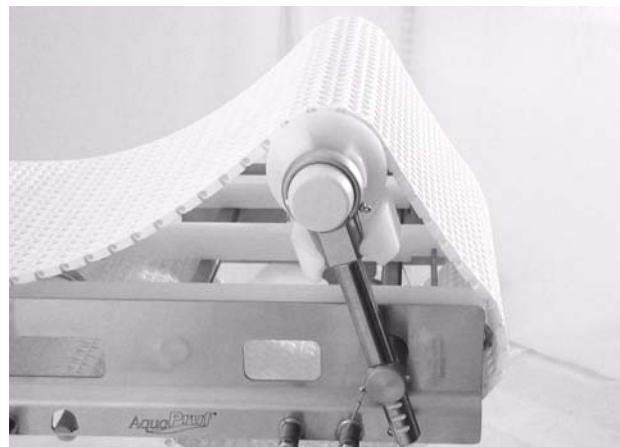

Figure 42
2. Tip up idler tail assembly (**Figure 42**).